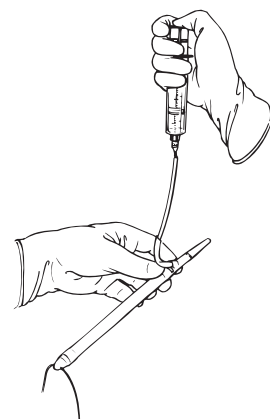

Figure 4-9
- Hold the cylinder from the rear with the front tip down to allow distal portion of cylinder to fill first (**Figure 4-9**).